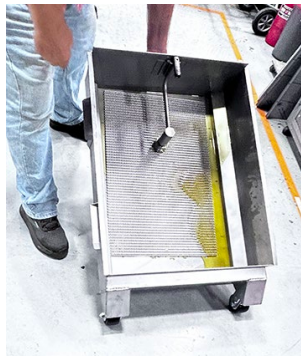

Figure 2
2. Remove the filter pan from the fryer (see Figure 2).